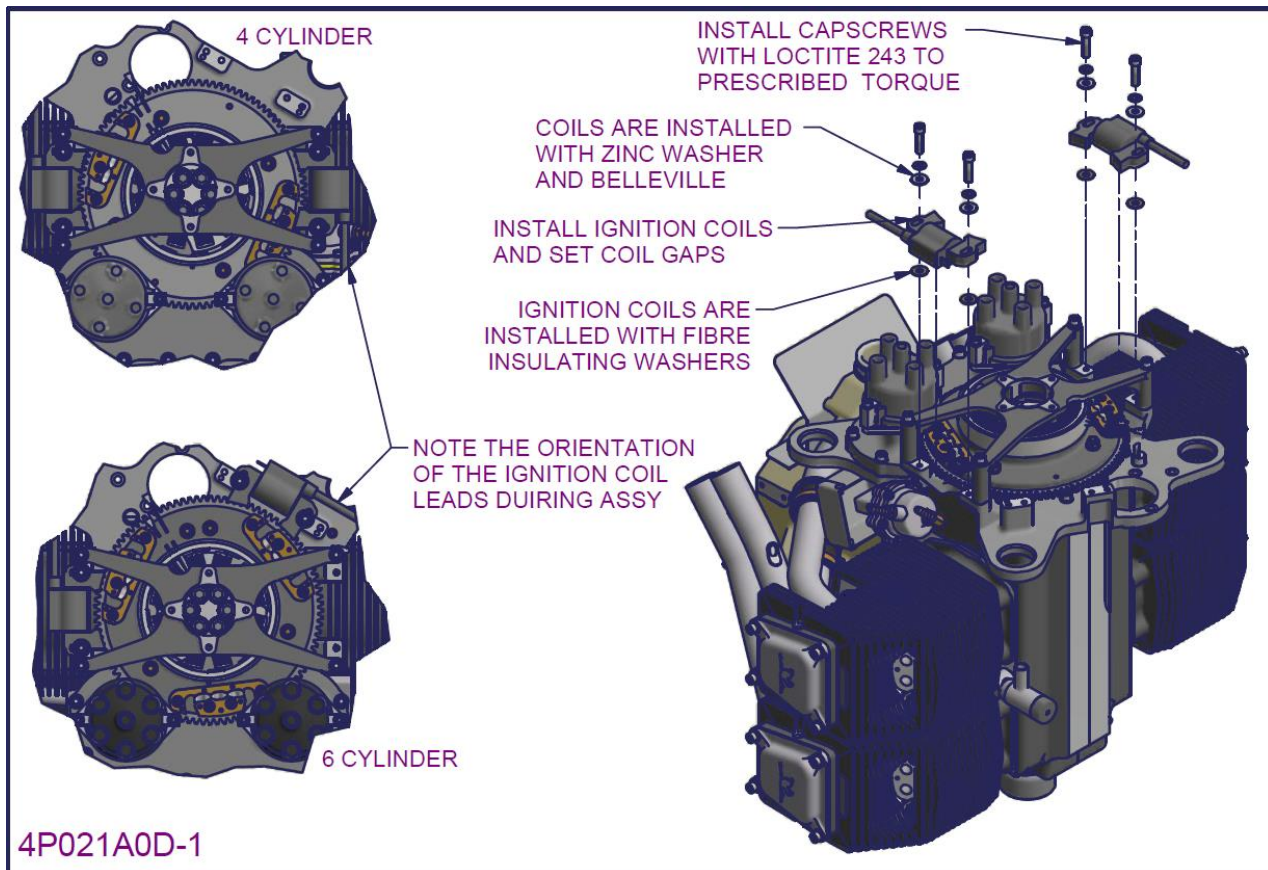

Figure 175 – 2200/3300 Ignition system installation 2
- Ensure the ignition coils are installed with the correct orientation as shown in Figure 175 (i.e. the coil leads are pointing in the clockwise direction when view from the flywheel).